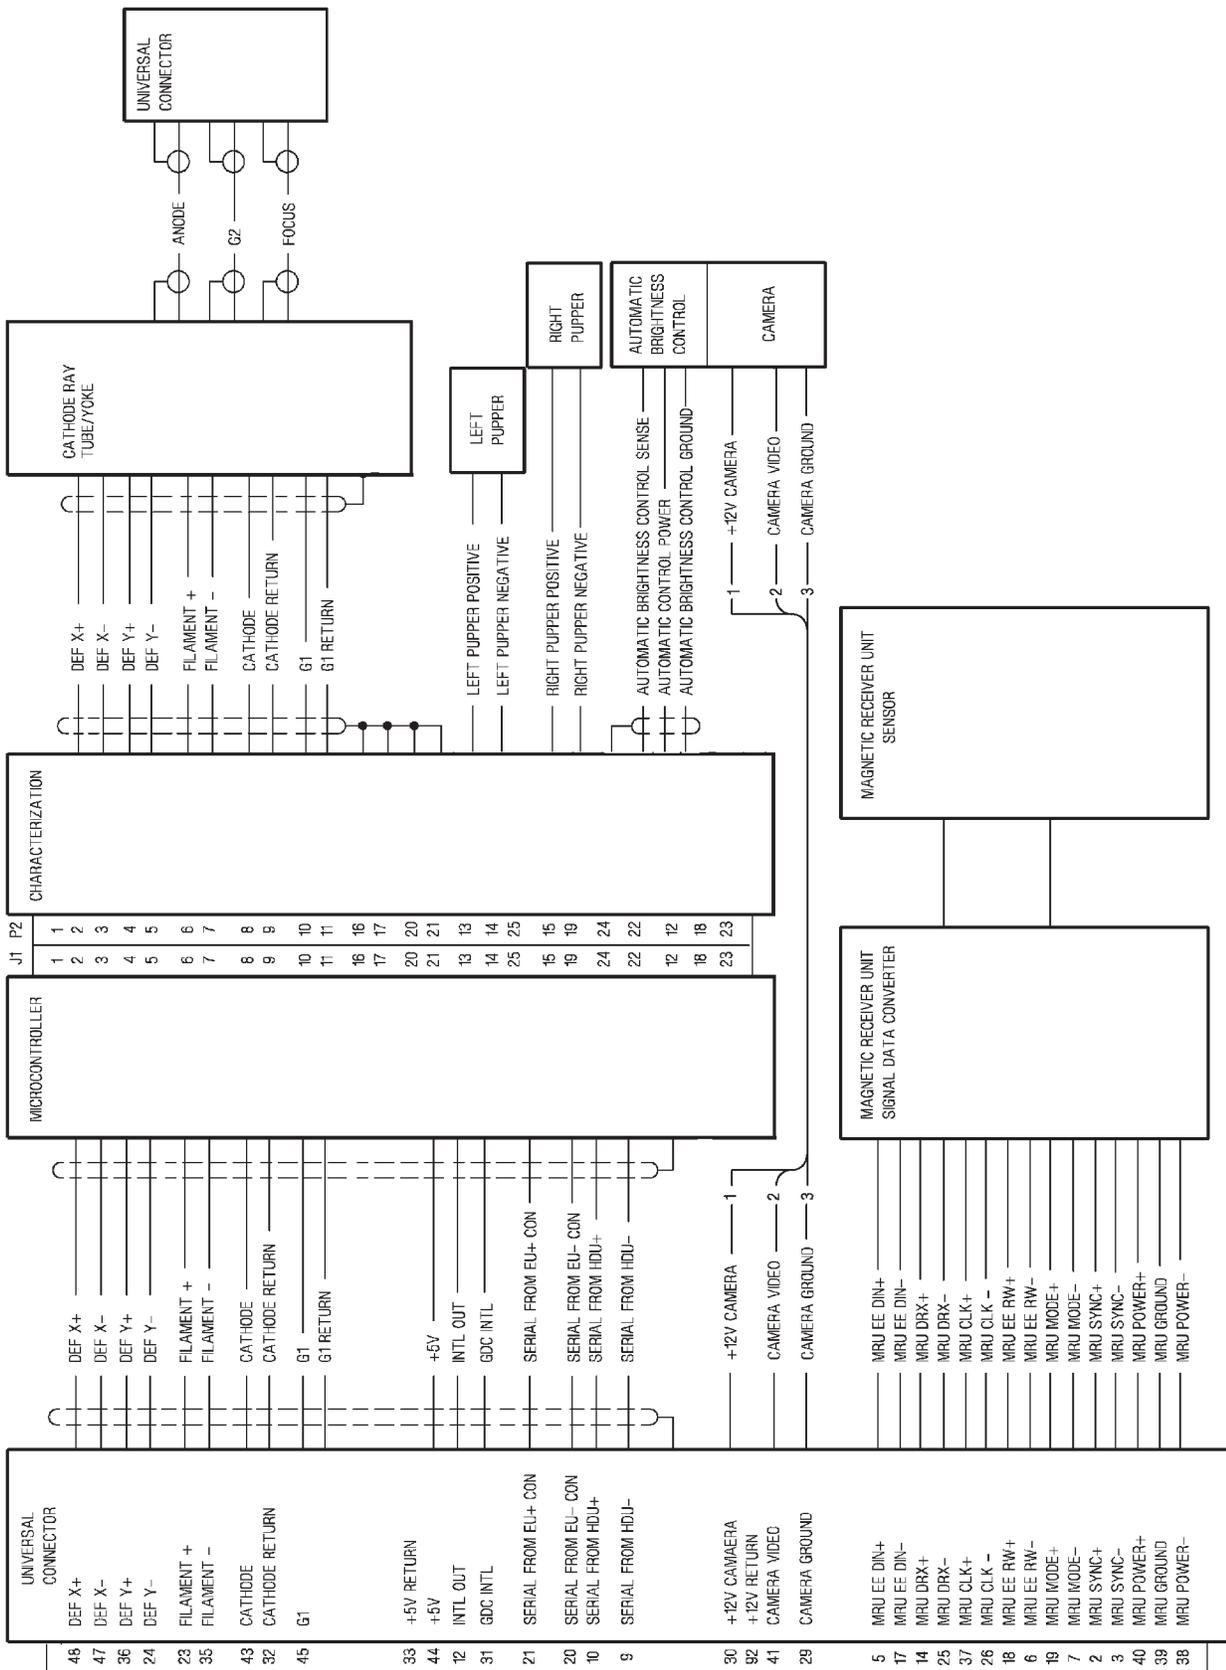

Figure 2. Helmet Display Unit Schematic
11. When replacement of part specified in testing procedures does not correct the failure, refer to Helmet Display Unit Schematic, figure 2, to isolate the problem.